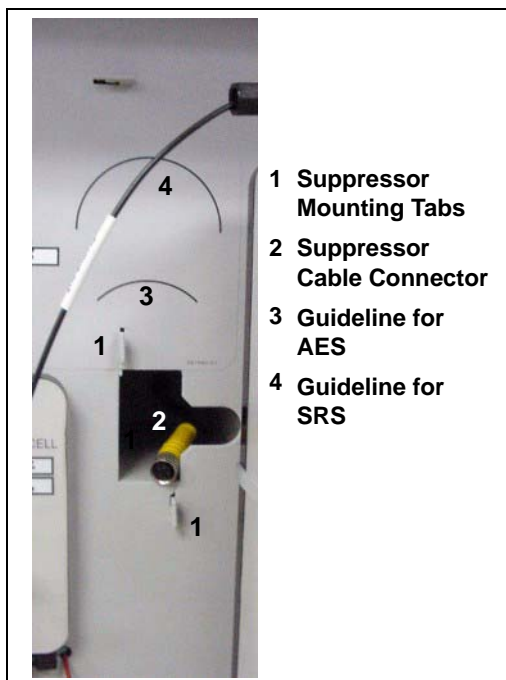

Figure B-22. Suppressor Mounting Tabs and Guidelines
1. Locate the suppressor mounting tabs on the component panel (see Figure B-22). Reach into the opening between the tabs and pull the yellow connector and attached cable slightly out of the opening.
5. Align the top of the suppressor with the guideline printed on the component panel (see Figure B-22) and align the slots on the rear of the suppressor with the tabs on the panel.